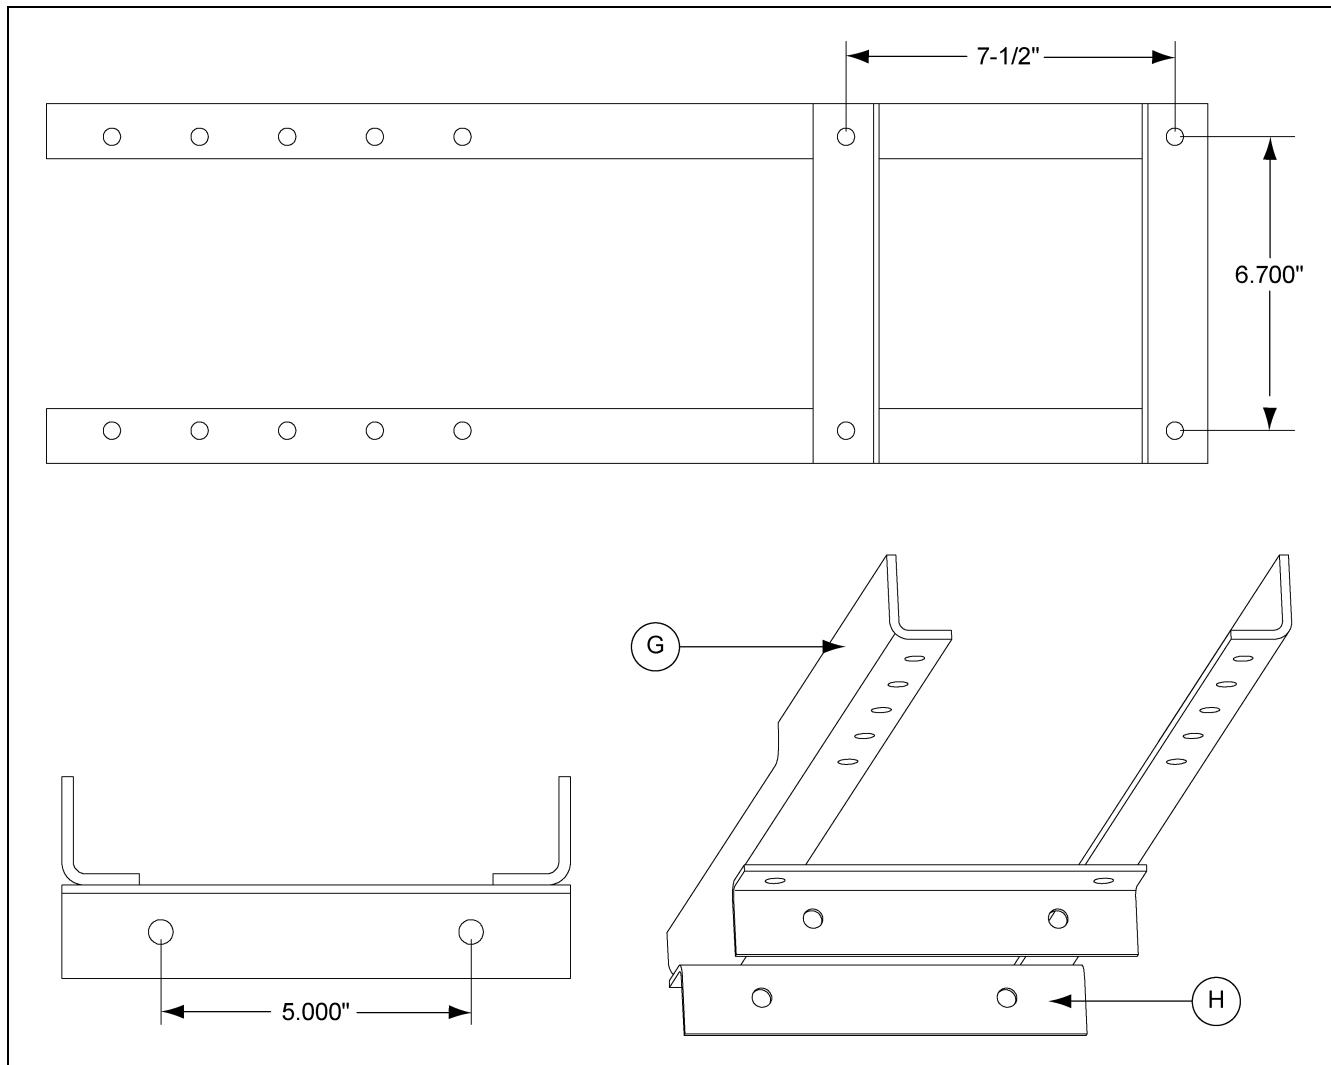

Figure 5
3. Attach the support arms (G) to the lower angle brackets (H) using the supplied flange bolts. (See Figure 5 on Page 5.)
4. Use the two (2) long bolts to secure the weights to the support arm.